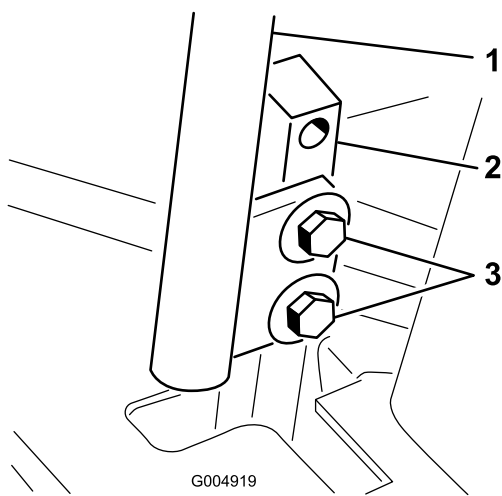

Figure 68
3. Loosen the bolts securing the control levers (Figure 68)